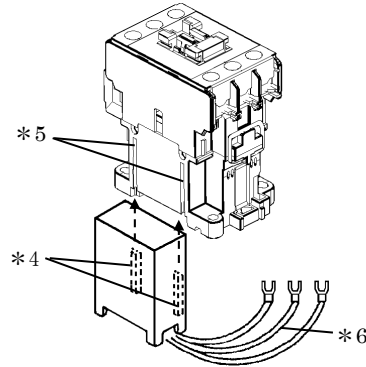

Fig. 2
3.2 Side-mounting Type (Fig. 2)